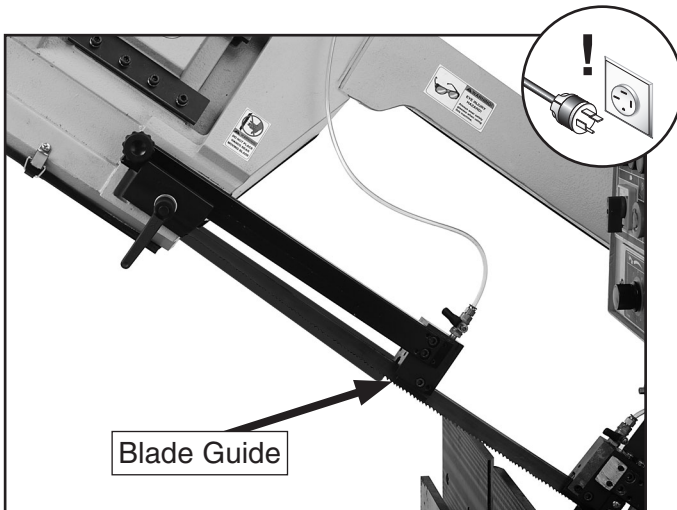

Figure 52. Blade guide extended.
4. Extend the blade guide as far as possible and lock it in place (**Figure 52**).